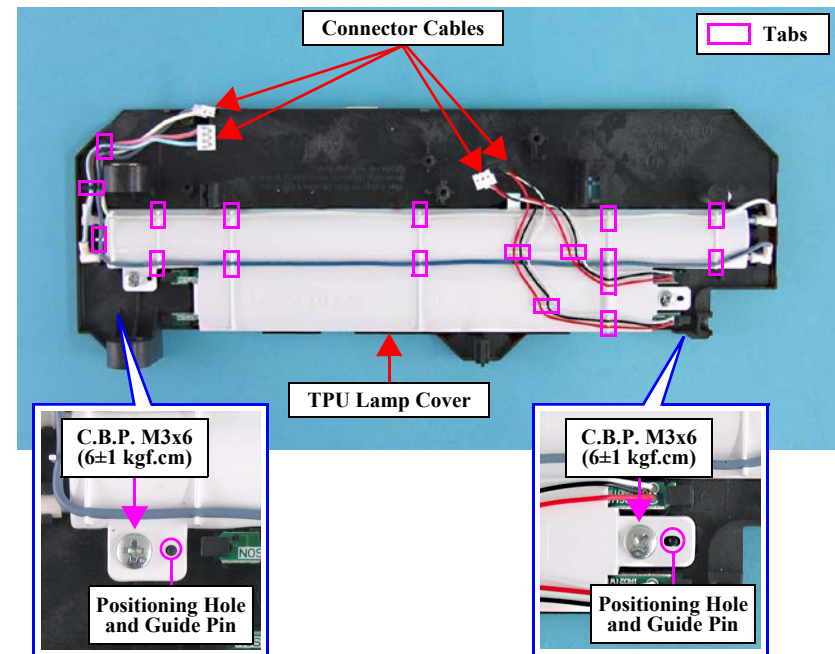

Figure 4-49. Removing the TPU Lamp Cover
- When installing the TPU Lamp Cover, match the positioning holes and the guide pins as shown in Figure 4-49 on page 59.